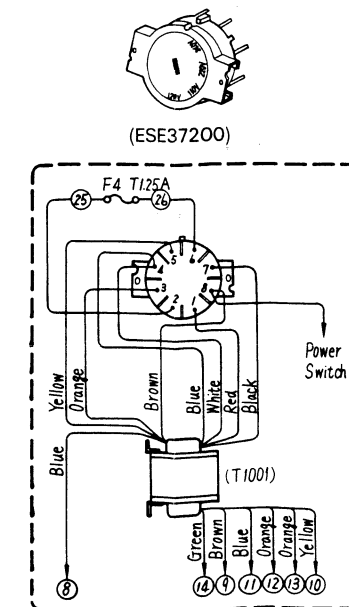

Fig. 10
1. When using the part number ESE37200, connect as shown in fig. 10.